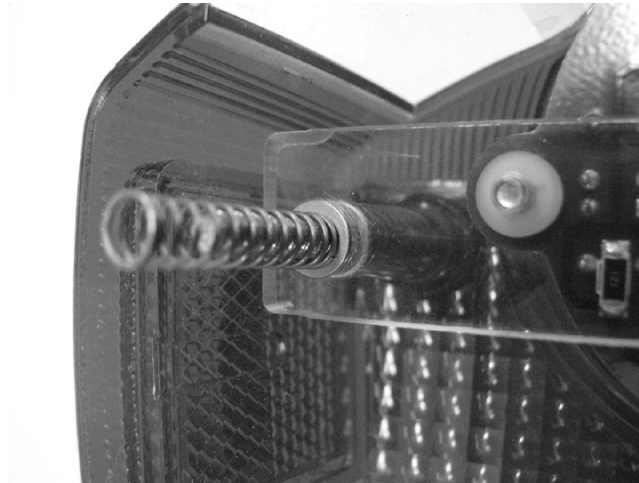

Figure 6
4. Install the 2 screws back into the lens and place a piece of masking tape over both of the screw heads; this will help prevent the screws from falling out while handling the lens. Install the LED Board/Bracket Assembly's bracket holes over the screw studs, and then install a washer followed by a spring for each screw as shown in Figure 6.